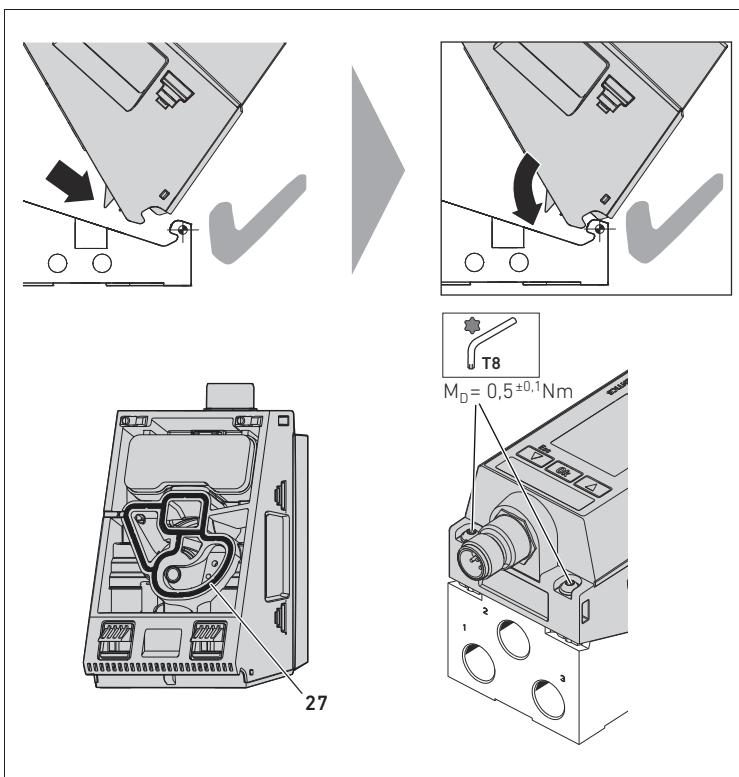

Fig. 9: Assembling the EV03 pressure regulator on a base plate
1. Place the EV03 onto the rotational axis ↘ at an angle (see Fig. 9).
2. Fold down the EV03 so that it rests on the EV03 base plate. Make sure the seal (27) is installed correctly in the pressure regulator.